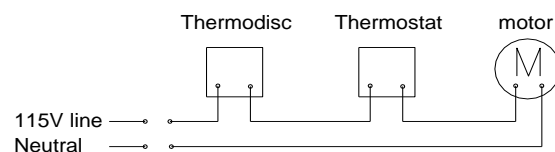

Figure 9
8. Make the electrical connections (Figure 9). The electric power must be 115 volts.